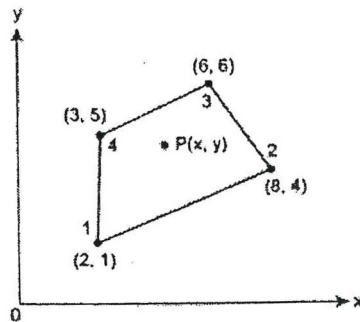

Fig. 15 (a)
15. a) For the isoparametric quadrilateral element shown in Fig. 15 (a), the Cartesian coordinates of point 'P' are (6, 4). The loads 10 kN and 12 kN are acting in x and y direction on that point P. Evaluate the nodal forces.